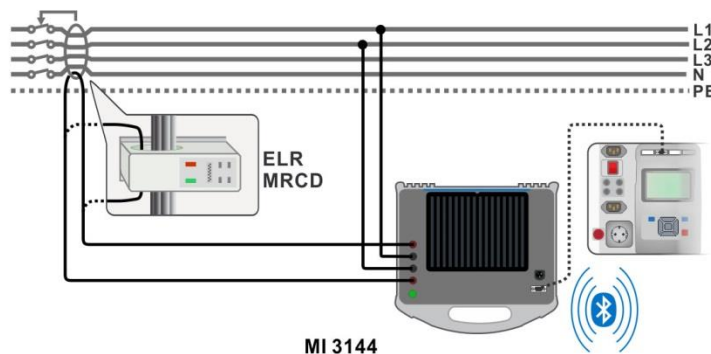

Figure 6.96: ELR Current Injection Test / Combination Time Test connection
- › Connect test leads to the object under test. See **Figure 6.96**. Refer to **MI 3144 Euro Z 800 V Instruction manual** for detailed information.
See *Figure 6.96: ELR Current Injection Test / Combination Time Test connection*
- Connect test leads to the object under test. See *Figure 6.96*. Refer to *MI 3144 Euro Z 800 V Instruction manual* for detailed information.